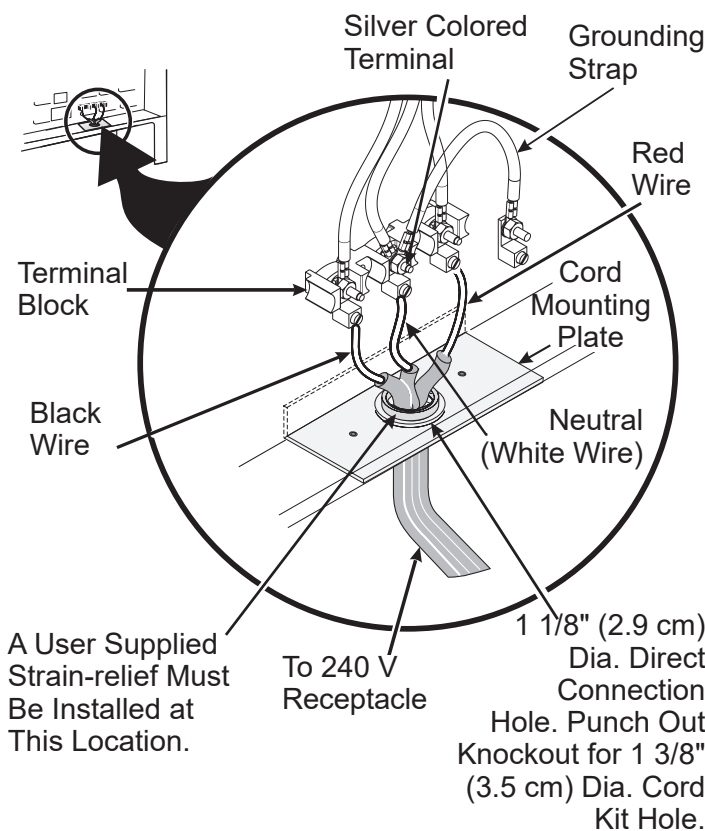

Figure 8
If local codes permit connection of the frame grounding conductor to the neutral wire of the copper power supply cord (see Figure 8):
2. Using the nuts supplied in the literature package, connect the neutral of the copper power supply cord to the center silver-colored terminal of the terminal block, and connect the other wires to the outer terminals. Match wires and terminals by color (red wires connected to the right terminal, black wires connected to the left terminal) (see Figure 8).